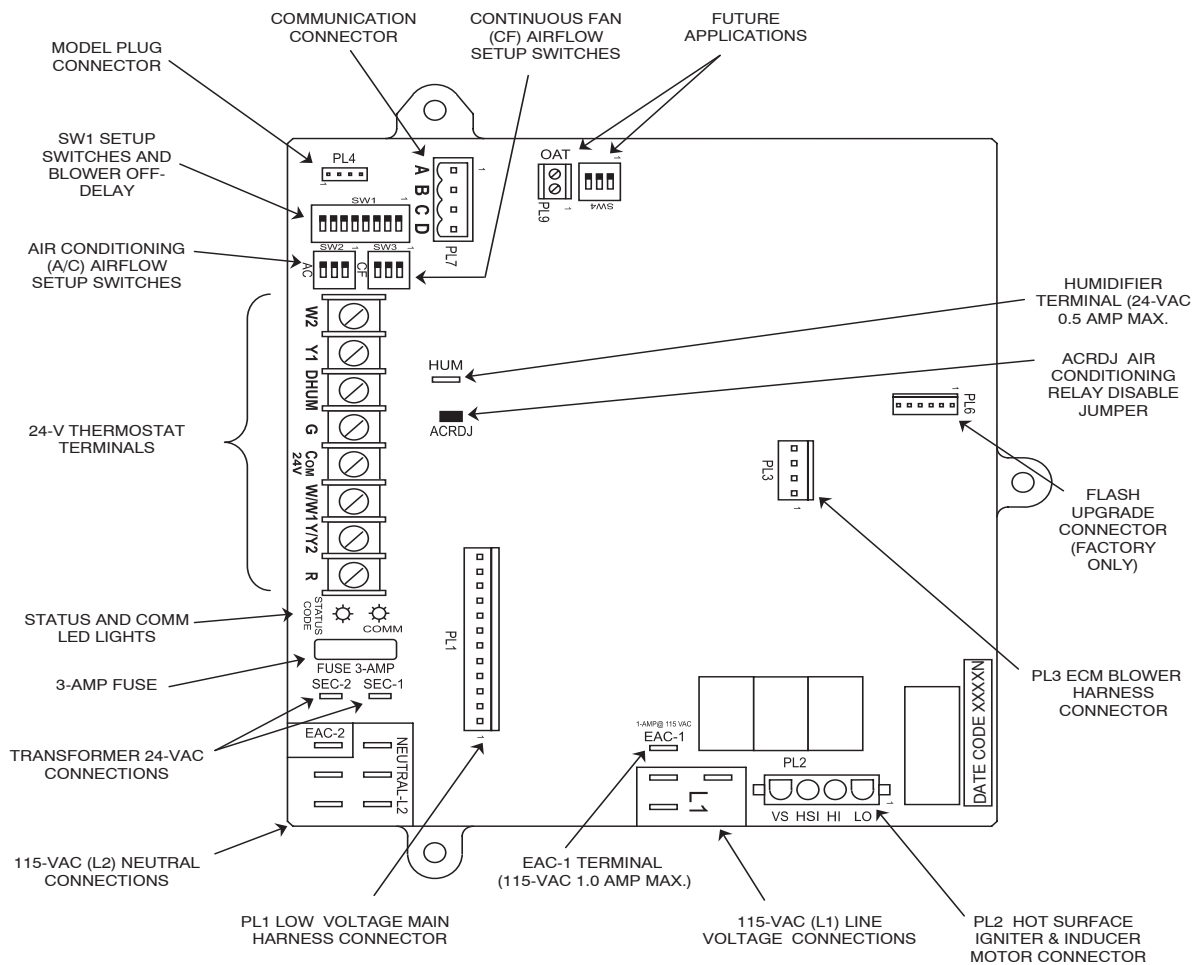

Fig. 16 – Variable Capacity Furnace Control
The 24-v circuit contains an automotive-type, 3-amp fuse located on the furnace control. (See Fig. 16.) Any direct shorts of the 24-v wiring during installation, service, or maintenance will cause this fuse to blow. If fuse replacement is required, use **ONLY** a fuse of identical size. The furnace control LED will flash status code 24 when fuse needs to be replaced.
- e. Turn setup switch SW1-1 to ON position. (See Fig. 16 or 21 for location.)